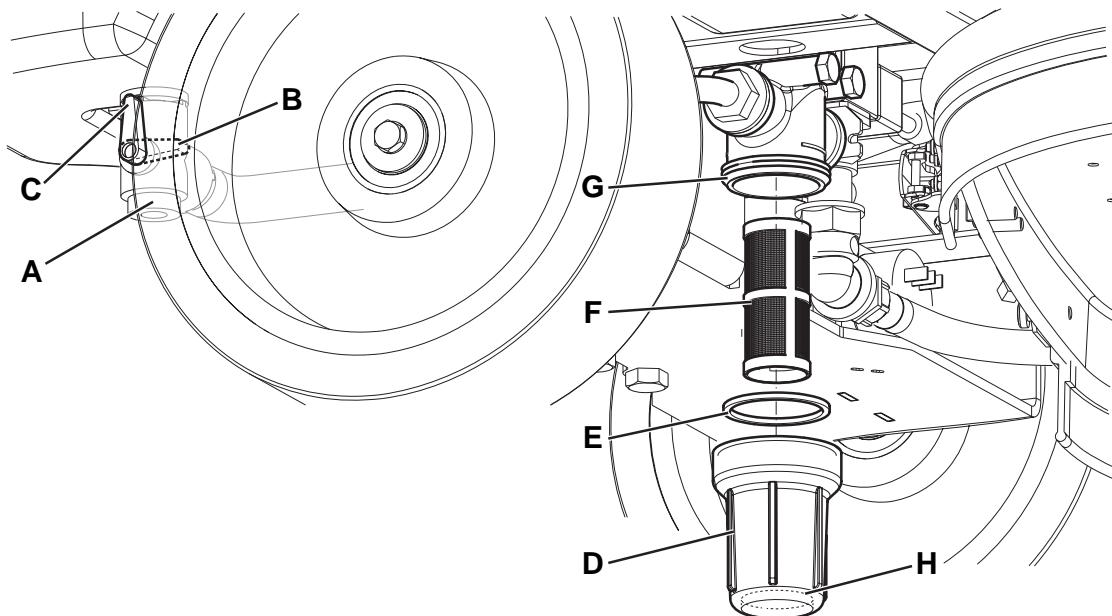

Figure 10
2. Turn the ignition key (58) to "0".
3. Close the solution tap (A, Fig. 10) under the machine, behind the right rear wheel. The tap (A) is closed when it is in the position (B) and it is open when it is in the position (C).
4. Remove the transparent cover (D) and the gasket (E), then remove the filter strainer (F). Clean them with water and install them on the support (G).
*The filter strainer (F) must be correctly positioned on the housing (H) of the transparent cover (D).*
5. Open the tap (A).